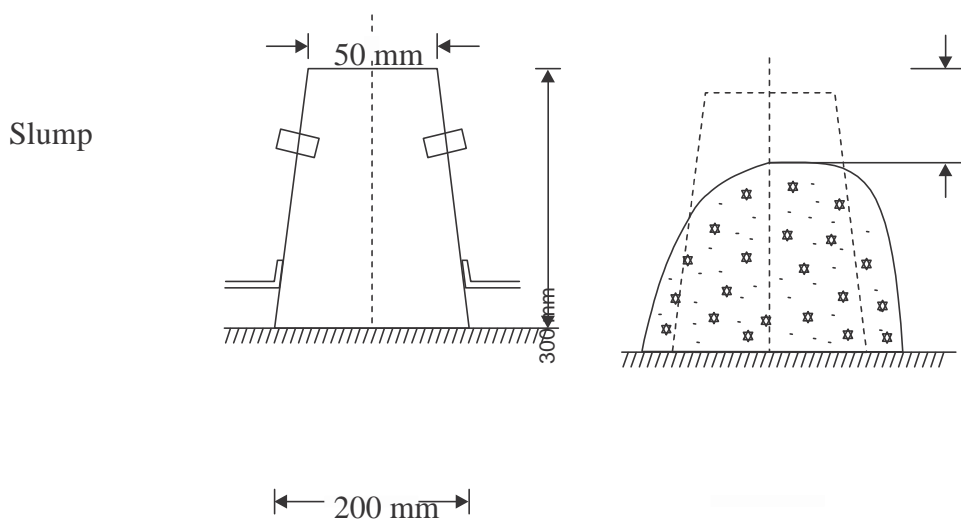

Fig.1.1.13.1 Slump test
2. Compaction Factor Test: This is another test to identify the workability of concrete. This test is conducted in the laboratory. The test equipment consists of two hoppers and a cylinder fixed to a stand, the dimensions and the distances between the three vessels being standardized. Vessel A and B are having hinged bottoms whereas cylinder C is having fixed bottom. [Ref. Fig. 1.1.13.2]